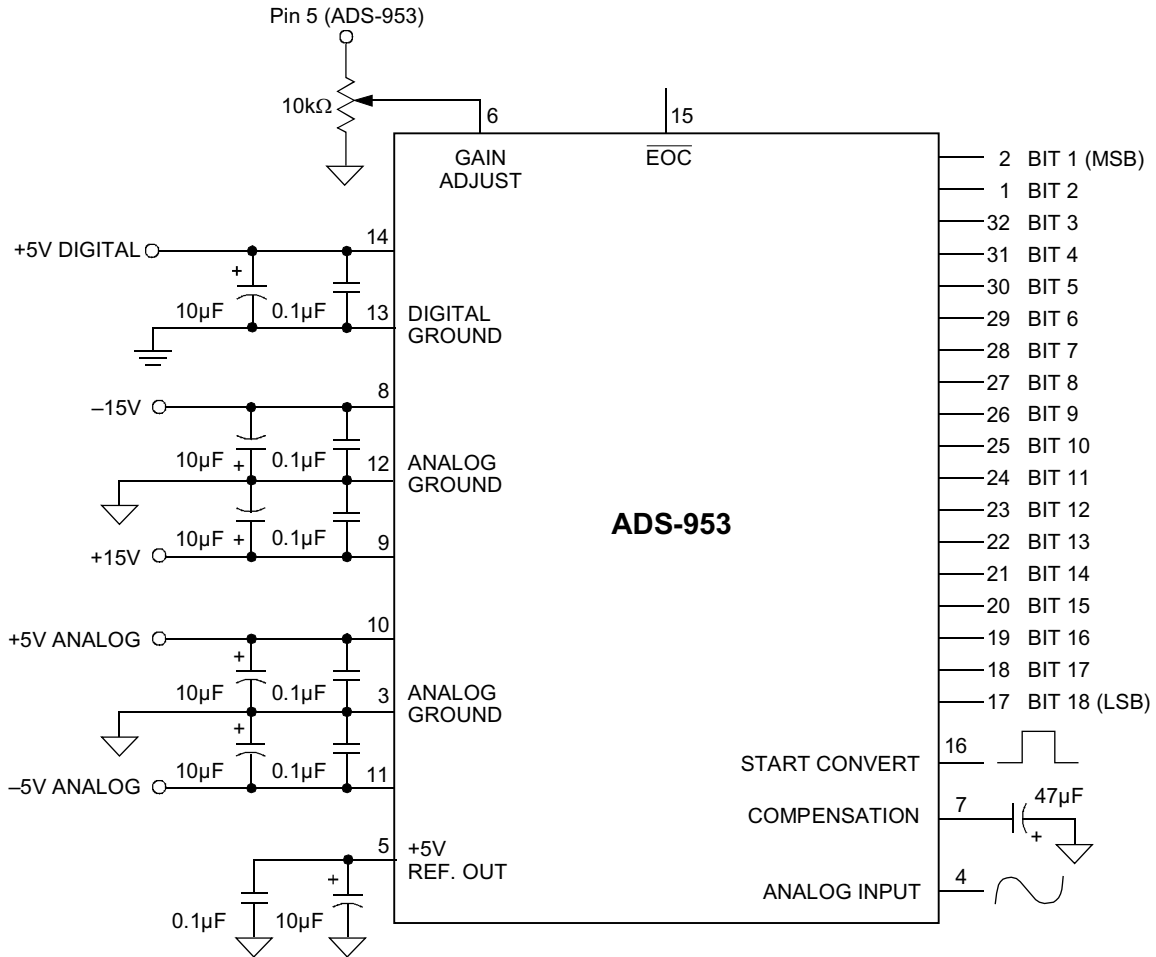

Figure 2. Typical ADS-953 Connection Diagram
2. The ADS-953 achieves its specified accuracies without the need for external calibration. If required, the device's small initial errors can be reduced to zero using the adjustment circuitry shown in Figure 2. When using this circuitry, or any similar offset and gain calibration hardware, make adjustments following warmup. To avoid interaction, always adjust offset before gain. Float pin 6 if not using gain adjust circuits.
Connect the converter per Table 1 for the appropriate input voltage range. Any offset/gain calibration procedures should not be implemented until the device is fully warmed up. To avoid interaction, adjust offset before gain. The ranges of adjustment for the circuits in Figure 2 are guaranteed to compensate for the ADS-953's initial accuracy errors and may not be able to compensate for additional system errors.